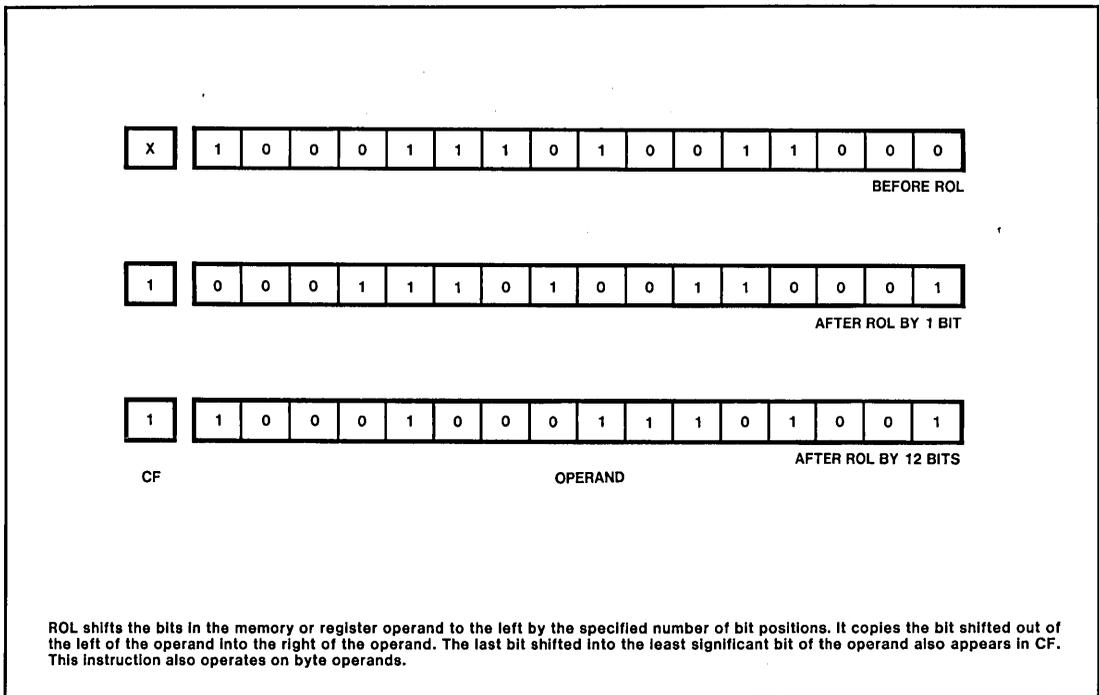

Figure 3-8. ROL
*ROL (Rotate Left)* rotates the byte or word destination operand left by one or by the number of bits specified in the count operand (an immediate value or the value contained in CL). For each rotation specified, the high-order bit that exists from the left of the operand returns at the right to become the new low-order bit of the operand. See figure 3-8.